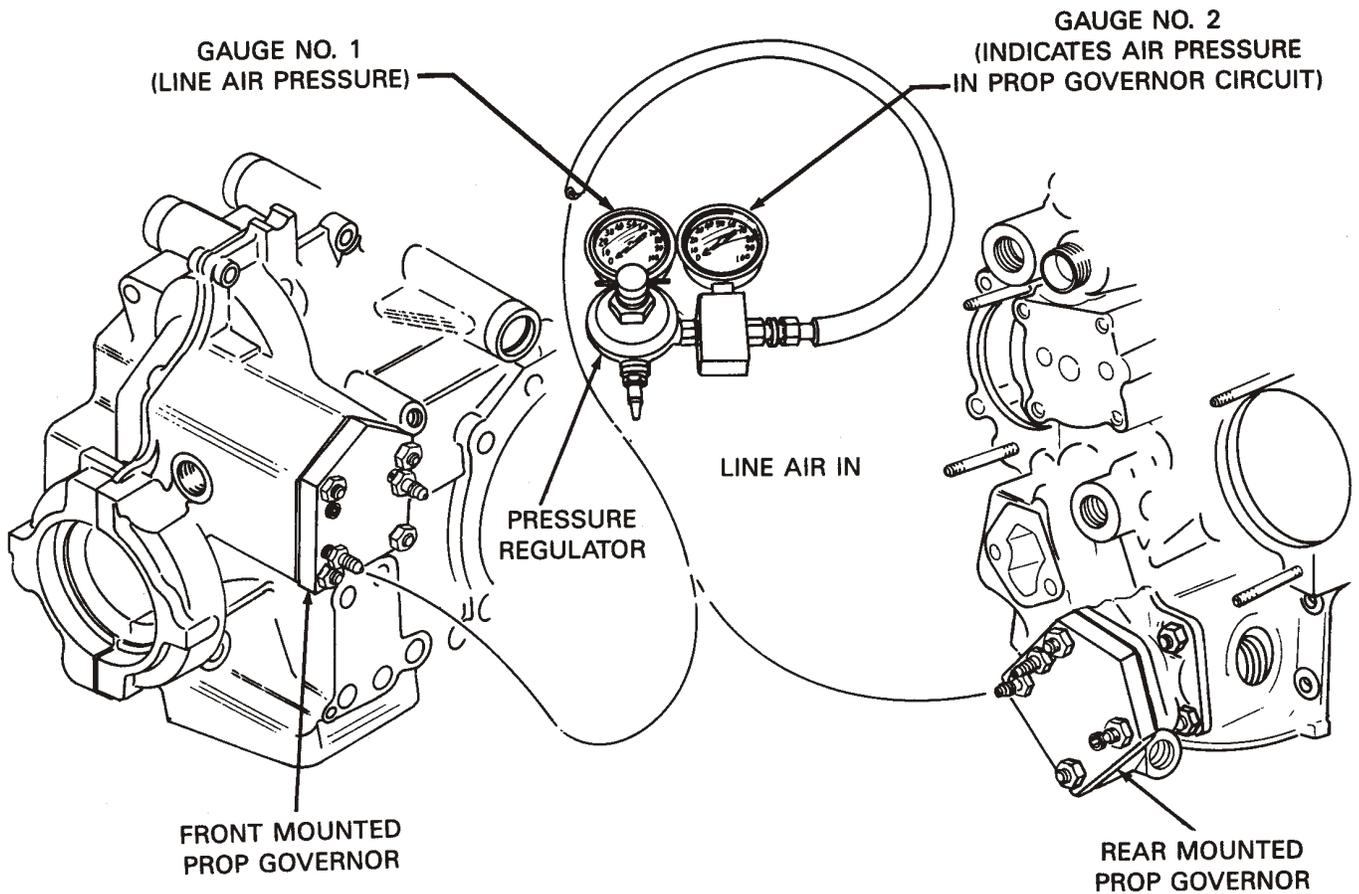

Figure 2. Propeller Governor Circuit Testing
7. Apply shop air to the differential pressure regulator and adjust it to 40 psi on the first gauge. With the engine at operating temperature, the pressure reading on the second gauge should read 6-35 psi, if the system is operating properly. Refer to Figure 2.